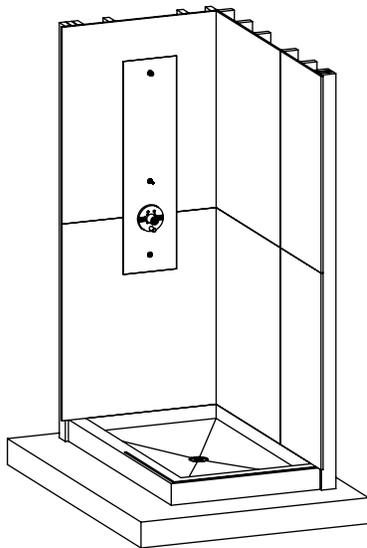

figure 17
3. Repeat steps 1-2 until cement board covers all surfaces. Extend the cement board to at least the outside edge of the pan. If it would make installation easier you can extend the cement board further outside of the pan (*fig. 17*).
3. Start wall panel 3B. Remember to use the line drawn in (fig. 17). Push the side panels up against the shower pan threshold. Any remaining gap between the side and back panels will be filled with grout after the shower has been installed. Finish all bottom panels.